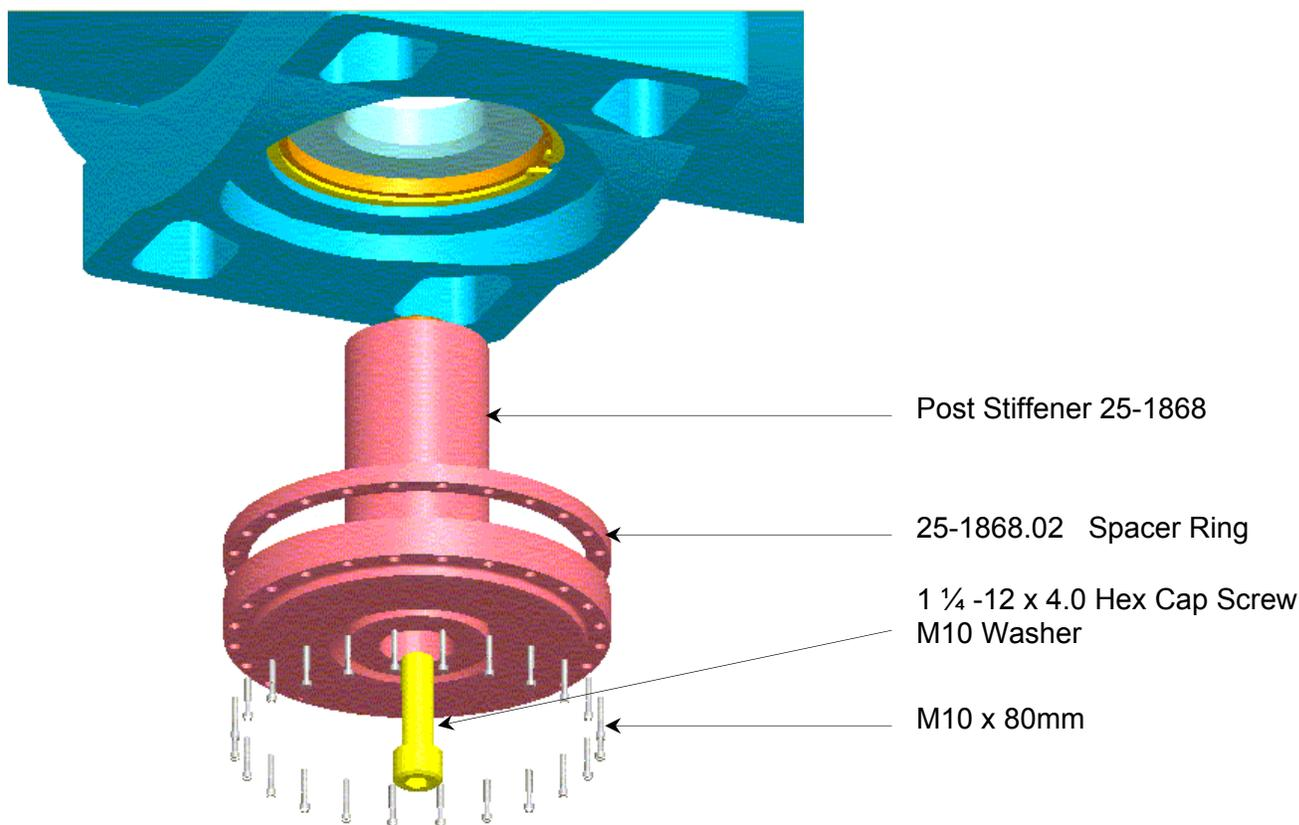

Figure 2
4.3.1 See Figure 2. Lower the threaded plug at the top of the stiffeners using spanner wrench to ensure top of post stiffener will not contact the bottom of the cradles during installation.